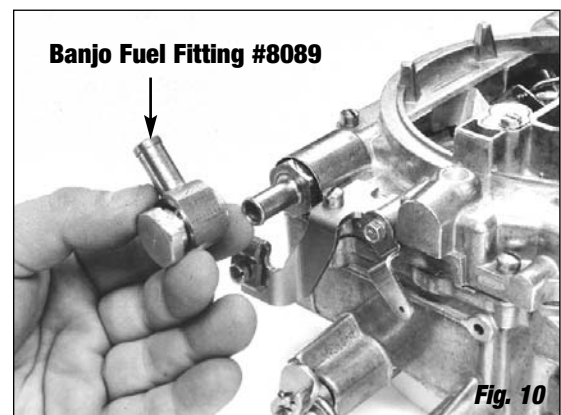

Fig. 10
9. Install new air horn gasket and air cleaner stud (supplied). Install air cleaner making sure it does not contact linkage or fuel line and has proper hood clearance. We recommend Edelbrock Pro-Flo chrome air cleaner #1221, which is a 14" diameter open element air cleaner that is designed to fit all Edelbrock Thunder Series carburetors. Extremely low profile air cleaners will not fit electric choke carburetor without air cleaner spacer #8092 (due to choke and fuel line interference) but will fit manual choke carburetor when used with 90° banjo fuel inlet fitting #8089 (**See Fig. 10**).